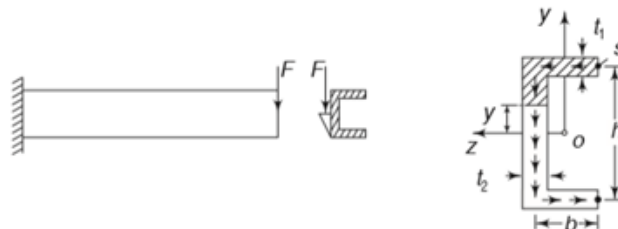

Figure 2
2. (a) Determine the shear stress distribution in a channel section of a cantilever beam subjected to a load  $F$ , as shown in figure 2. Also, locate the shear centre of the section. [7M]